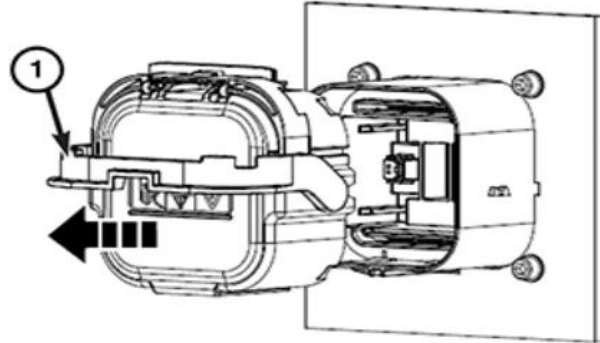

Figure 9 – MSD Removal
12. Pull straight back on the plug lever (1) to disengage and remove the high-voltage manual service disconnect from the receptacle (Figure 9).